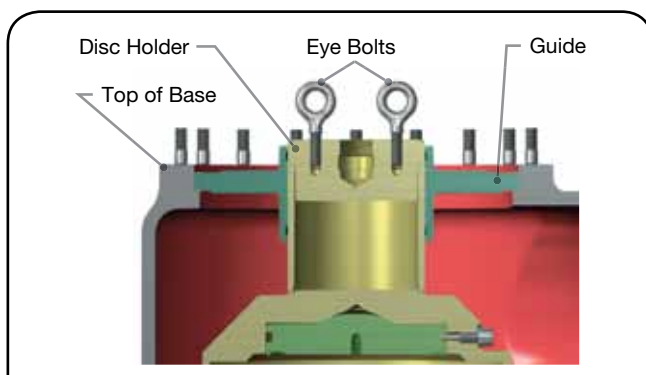
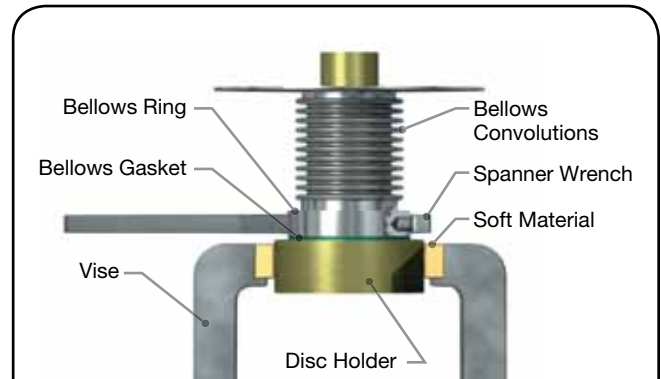

Figure 14b: Lifting Lug for V and W Orifice
Figure 15: Removing the Bellows Ring
- Remove the disc holder (8) and disc (6) by lifting up on the lifting tool.
- Use the lifting lugs to lift the disc holder (8) and to remove all internals (see Figure 14b).
11. Remove the guide (9) from the disc holder (8). (For restricted lift valves, see Checking Lift on Restricted Lift Valves. For V and W orifice unbolt the bellows from guide before guide removal.)
12. For D through U orifice bellows valves (see Figure 7), the bellows is attached to the disc holder (8) by right-hand threads. Use a special spanner wrench on the bellows ring to remove it by turning counterclockwise (see Figure 15).
The bellows convolutions (see Figure 15) are very thin and fragile. Take care to protect them from damage.